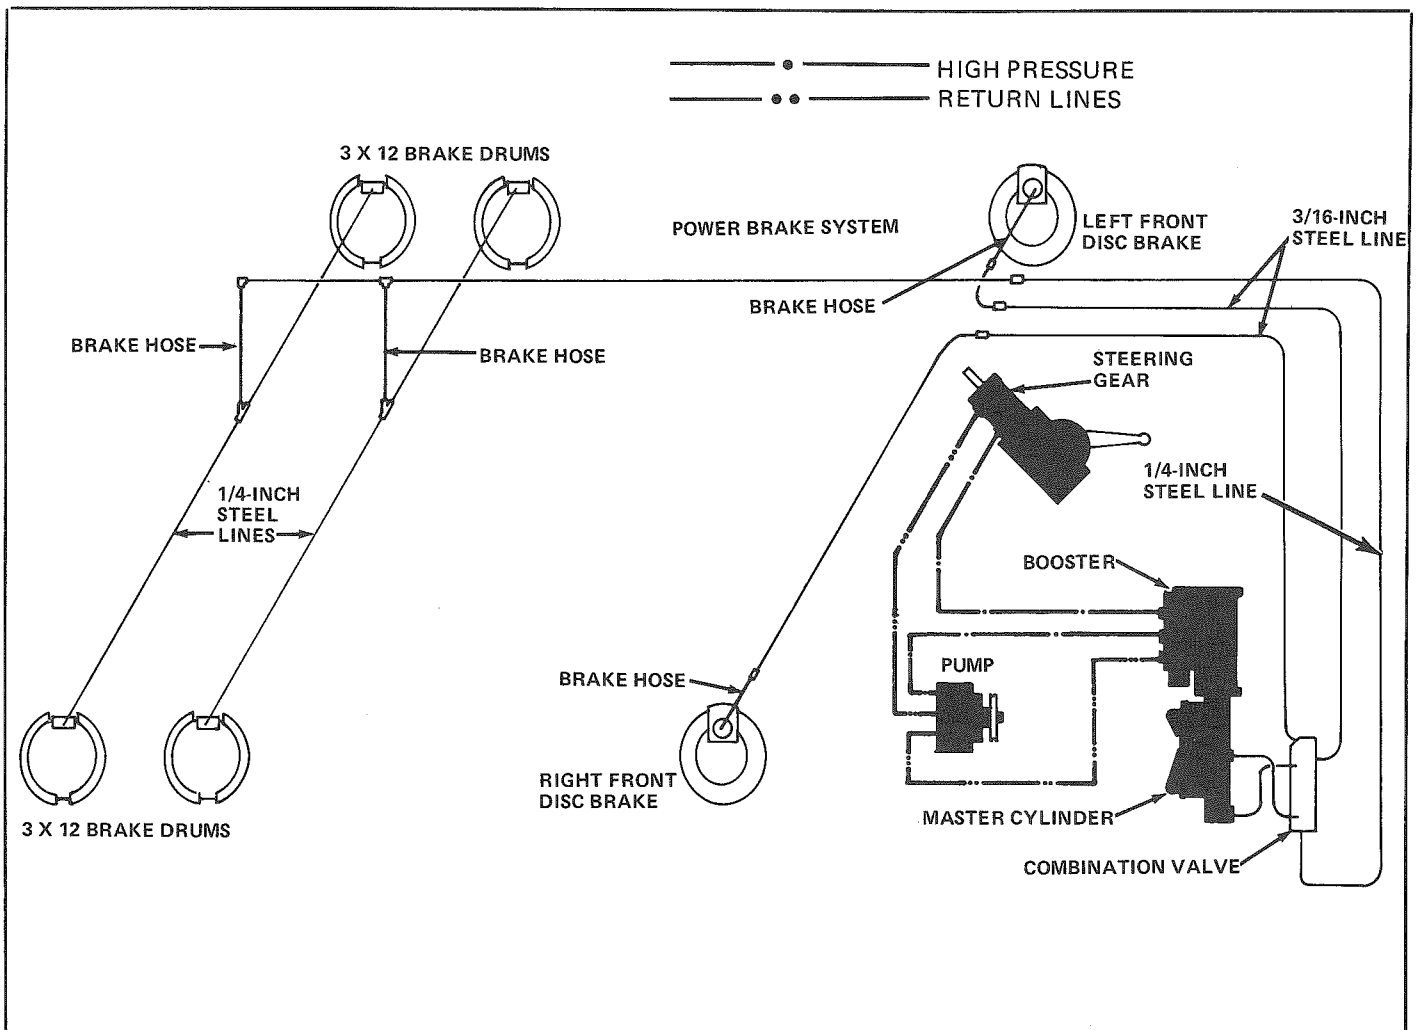

Figure 153 – Hydro-Boost System Schematic
**HYDRO-BOOST SYSTEM** – The brake system diagram for a Hydro-Boost installation is illustrated in figure 153. The Hydro-Boost is normally mounted on the front side of the firewall and used with a suspended brake pedal. The Hydro-Boost is either mounted directly to the firewall or to brackets attached to the firewall. In addition to mechanical connections to the pedal or input rod, four (4) hydraulic connections also need to be made. One connection is from the supply pump to the booster inlet port. A second connection delivers the hydraulic flow from the booster gear port to the steering gear. A third hose returns internal leakage and fluid from the boost cavity to the pump reservoir. The fourth connection returns fluid from the steering gear.